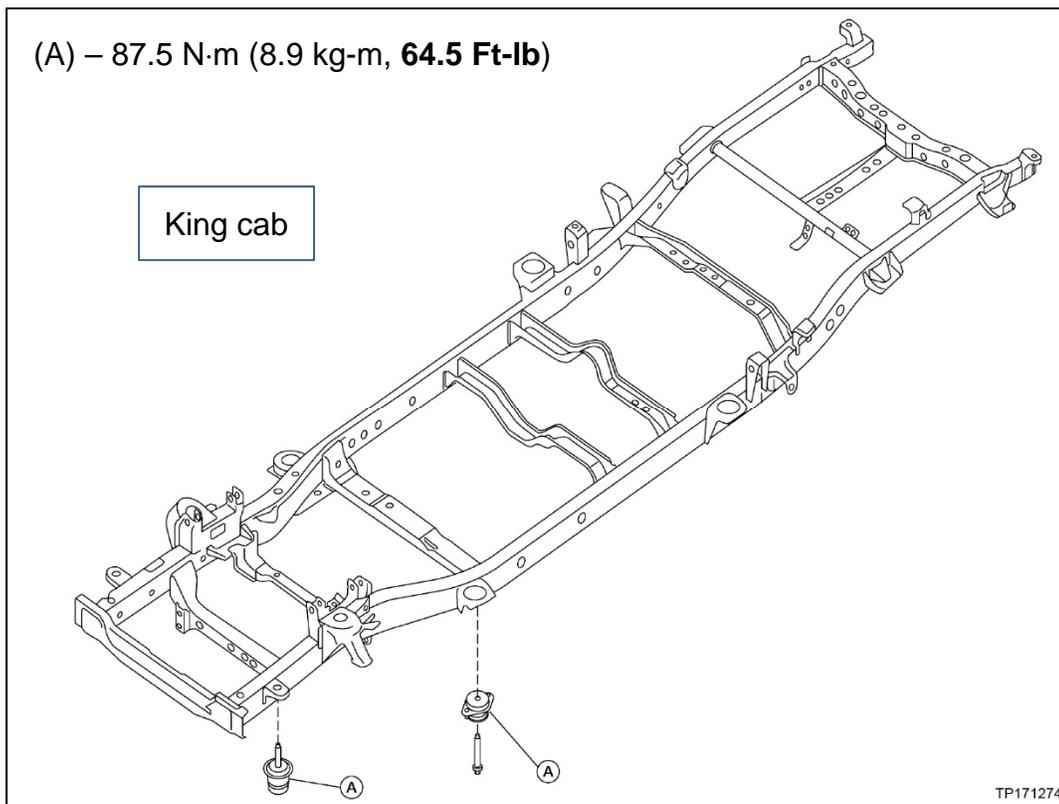
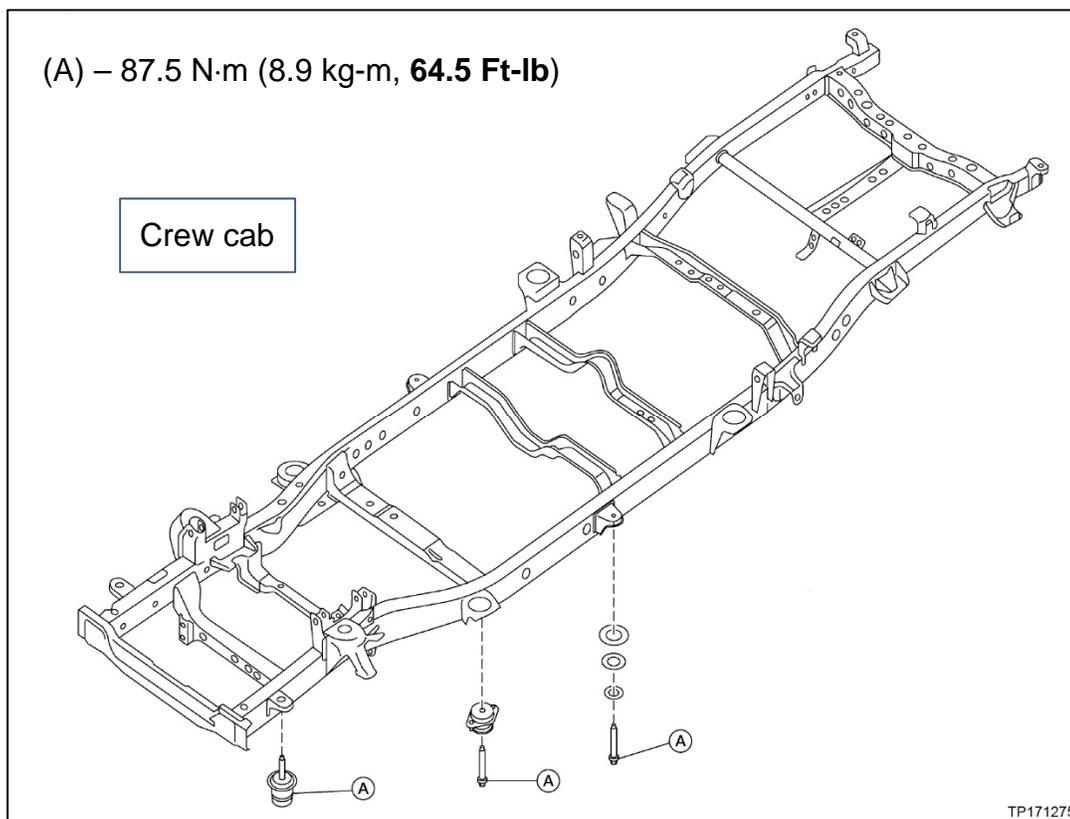

Figure 20
Figure 21
31. Torque the all body mount **center** bolts as shown in Figure 20 for King cab, and Figure 21 for Crew cab.